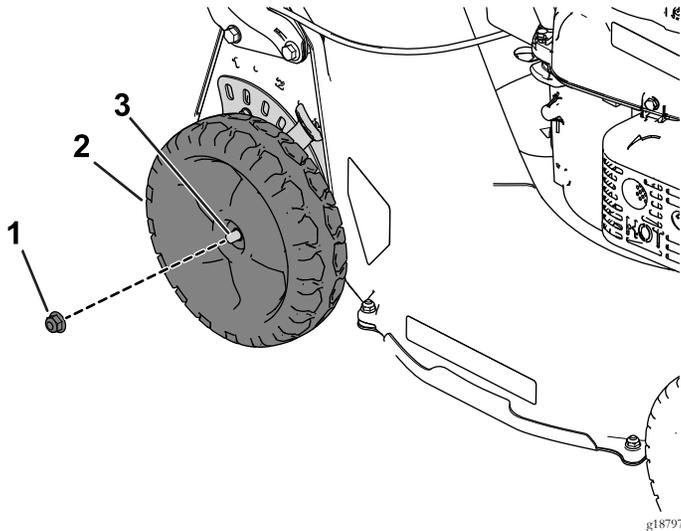

Figure 2
1. Loosen and remove the nut from the axle bolt; set the nut aside (Figure 2).